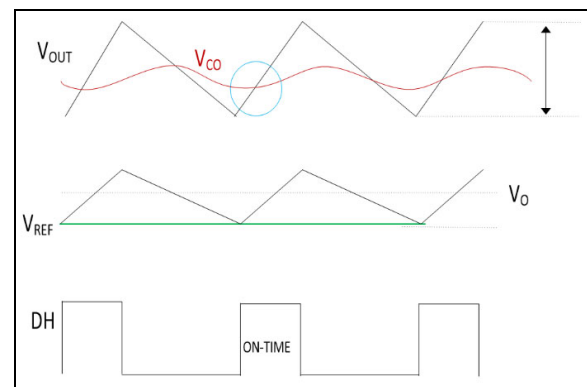
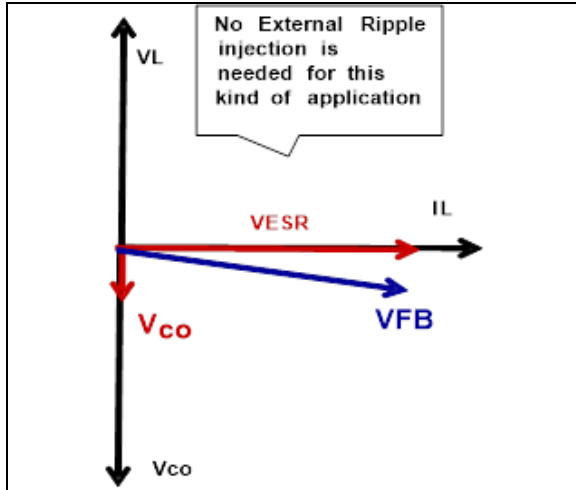

FIGURE 4-4: Output Capacitive and ESR Ripple.
FIGURE 4-5: Output Capacitive and ESR Ripple Vector Relation.
If the ripple voltage at the FB node is not in phase with the inductor current ripple, double or multiple pulsing may occur, causing the circuit to become unstable. The output capacitors generally have three components: (1) capacitive ripple, which lags the inductor current ripple, (2) ESR ripple, which is in phase with inductor current, and (3) ESL ripple, which has very minimal impact in low-voltage capacitors. Capacitive and ESR ripple are depicted in Figure 4-4. Figure 4-5 shows the vector relation of effective FB ripple voltage for high ESR capacitors.